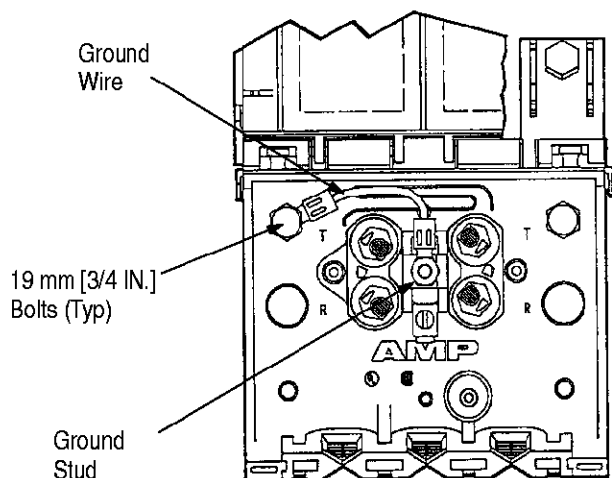

Figure 8
- Holding brackets in place, open the terminal. Insert the 19 mm [3/4 in.] bolts through the front of the terminal. See Figure 8.